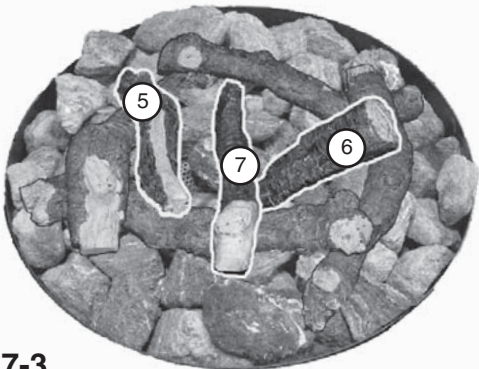

Fig. 17-3
4. Lay the remaining logs across the already positioned logs in an attractive pattern (see Fig. 17-3).